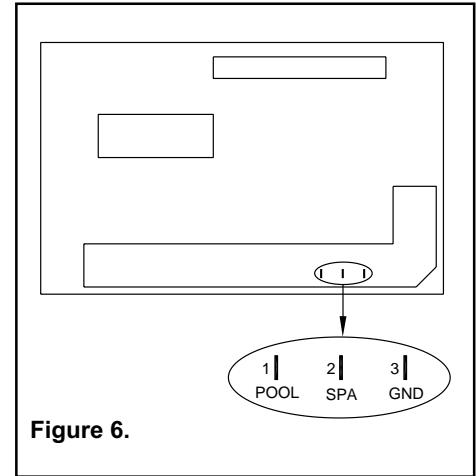

Figure 6.
3. With the heater in the "OFF" mode, locate the three tabs on the back of the temperature controller as viewed from the backside, see Figure 6.